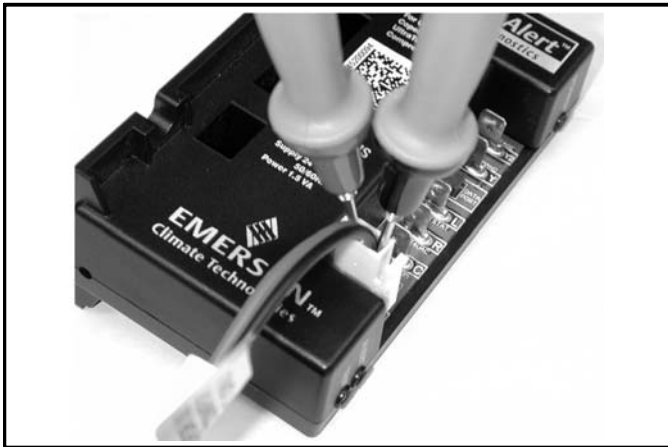

FIGURE 9
2. Insert lead wires from voltmeter into back of the red and black wire plug jack that feeds power to compressor solenoid coil. Set voltmeter to DC volt scale to read DC voltage output from LSOM II plug. See figure 9.